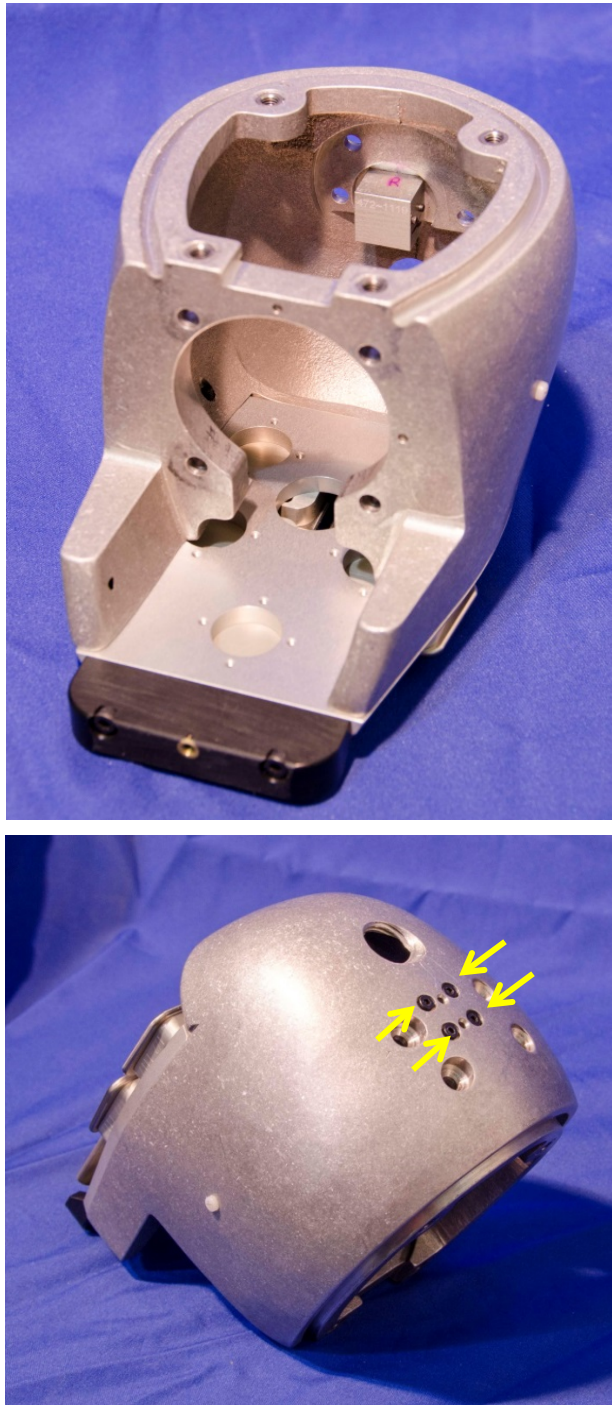

Figure 3-12. Install head biaxial accelerometer assembly
- 3.2.2.9 Install the Head Biaxial Accelerometer Assembly (472-1101) to the skull using four M3 x 0.5 x 12 SHCS through the exterior top of the skull (Figure 3-12).